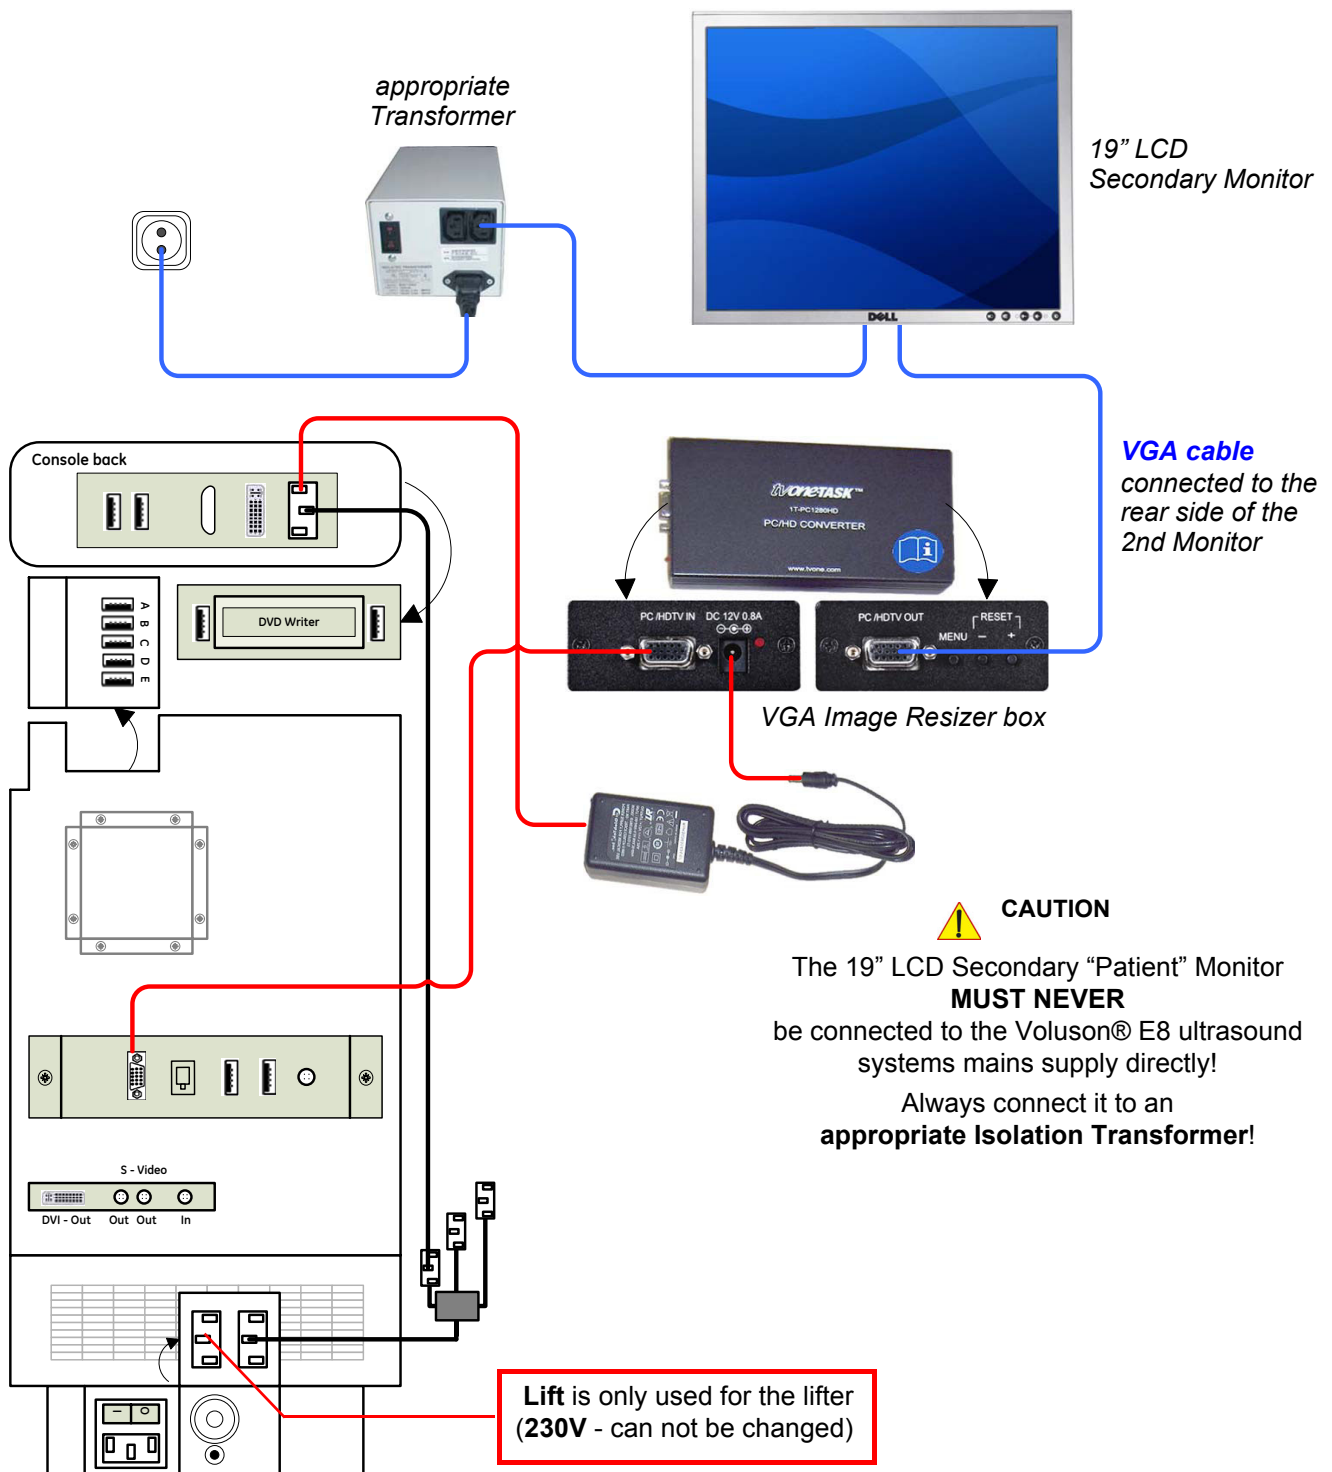

Figure 3-36 Connection Scheme - 19" Secondary LCD Monitor
- 2.) Connect the Secondary Monitor according to connection scheme (see: Figure 3-36 on page 3-42).